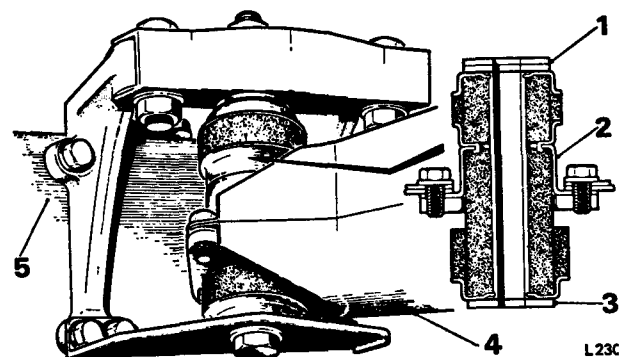

FIG. H27 REAR SUSPENSION CROSS-MEMBER MOUNT
1. Load the new mount by supporting it on the central flange and pressing the mount lower face upward sufficiently to enable a split ring packing (RH 7848) 0.234 in. (5.94 mm.) thick to be fitted between the upper main cushion top cup and the limiting cushion which encircles the main cushion (see Fig. H27). Care must be taken not to bend the central flange.
2. Centralise the mounting in the special fixture (RH 7847) so that the radial run-out of the cylindrical portion of the central pressing does not exceed 0.025 in. (0.64 mm.). Ensure that the two upper and one lower abutment washers are fitted as shown in Figure H27.
3. Fit and torque tighten the mount to the cross-member mounting point (see Fig. H27) and ensure that the cross-member is not disturbed.
8. Raise the cross-member into position with two abutment washers fitted to each mount. Locate each mount by threading the centre bolts, fitted with the steady brackets and lower abutment washer, through the mounting points (see Fig. H27).